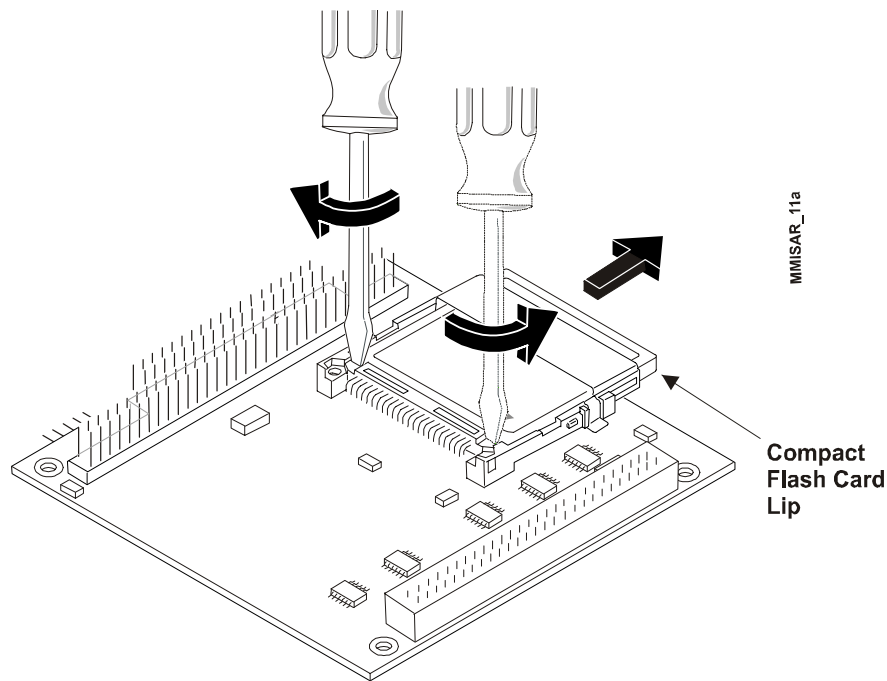

Figure 3-3. Removing the Compact Flash Card
- ♦ Plug in a 2mm, 44-pin standard cable to J4 on the MiniModule ISA and into the corresponding IDE connector on the target. See Figure 3-3.
4. Turn over the MiniModule ISA to access the bottom of the board and lay it on a flat anti-static surface. See Figure 3-3.
5. Insert a flat head screw driver between the Compact Flash card and the socket and turn the screw driver as shown in Figure 3-3.